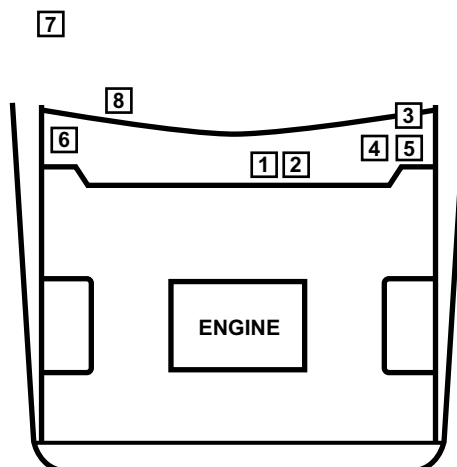

Figure 15-5 1990–94 Legacy and 1993–95 Impreza 1.8L common connector locations
- “1990–94 Legacy and 1993–95 Impreza 1.8L common connector locations” on page 178 (Table 15-5, Figure 15-5)